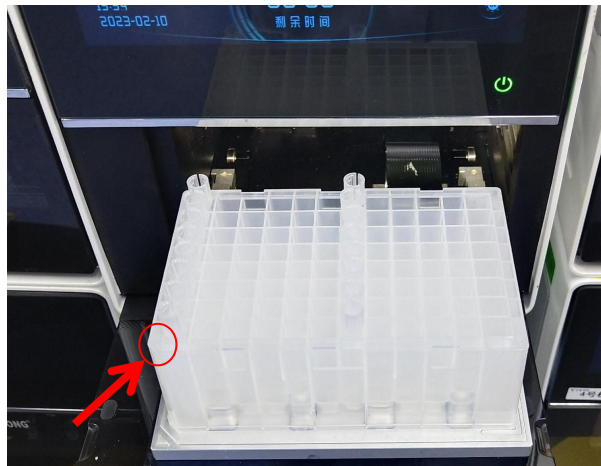

Figure 2. 96-deep well plate
**⚠ Note:** The user should ensure the marked notch of the plate faces front, which is shown in Figure 2.